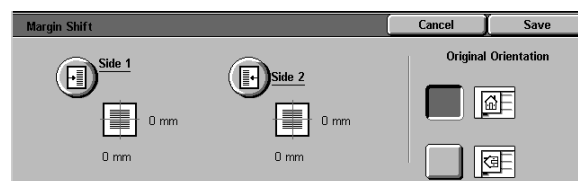

Figure 16: Margin Shift screen
- 1 Touch the **Margin Shift** icon on the Added Features tab to display the Margin Shift screen, Figure 16.